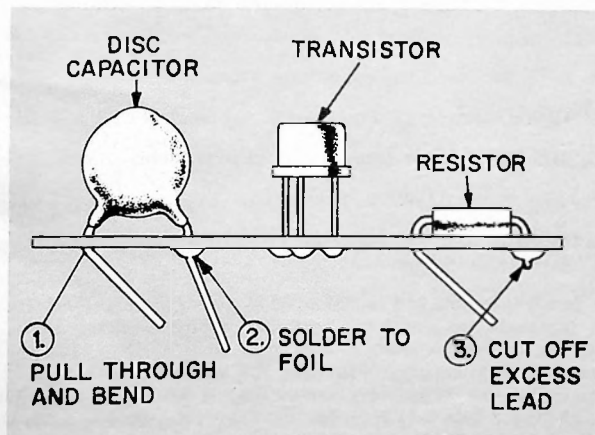

FIGURE 2. WIRING THE PC BOARD
SEE FIGURE 2.
- Mount the following transistors by soldering the leads where shown. Position the transistors as shown in Figure 2.